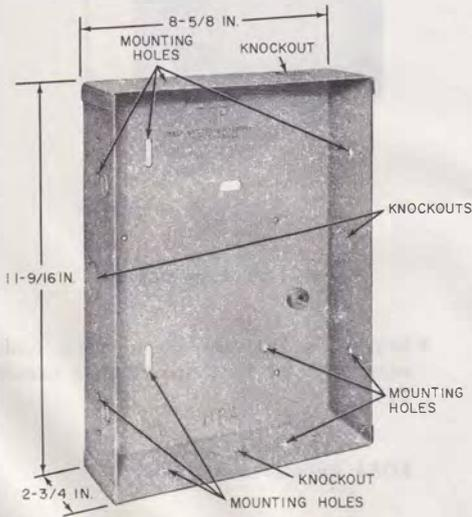

Fig. 7—118A Apparatus Box
- Add Fig. 7
◆118A Apparatus Box (Fig. 7).
(c) Mounting holes are provided on the top, bottom, sides and back of the apparatus box (Fig. 7).